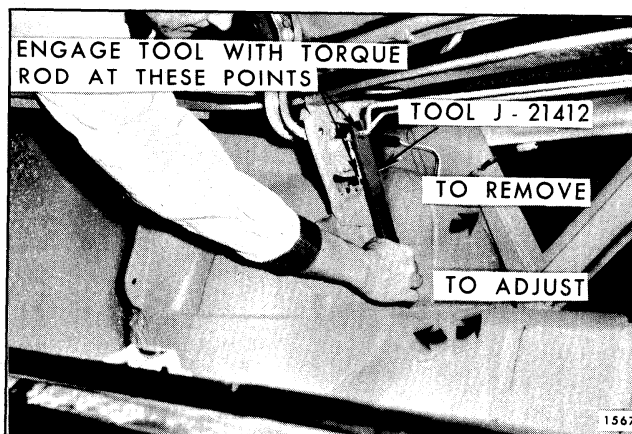
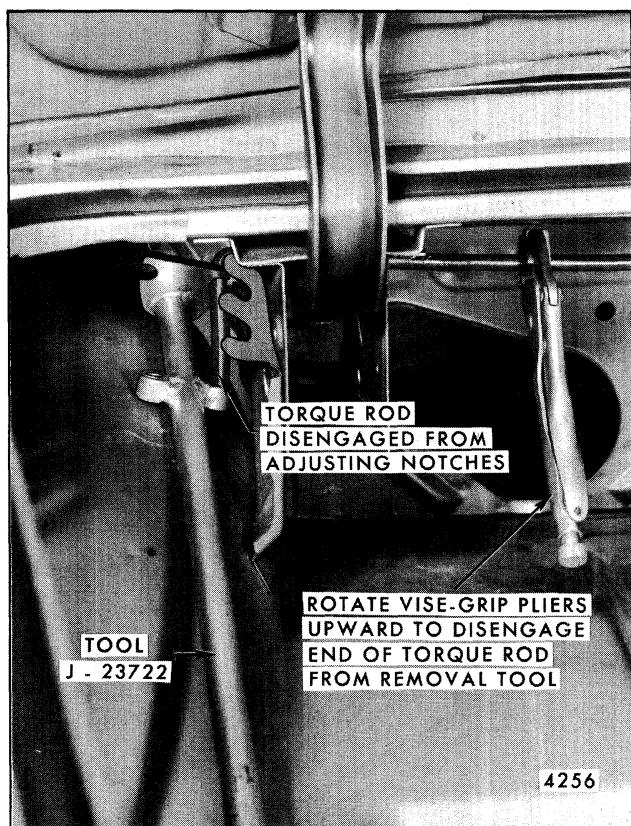

Fig. 7-36-Rear Compartment Torque Rod Adjustment - "X-27, 69" Styles
Fig. 7-42-Rear Compartment Torque Rod Removal - Cadillac "C-E" and Buick "E" Styles
- a. On "X-27, 69" and "H-27" styles, use tool J-21412-01 or equivalent (Fig. 7-36).
2. To remove torque rods, prop lid in full open position and disengage end of torque rod from adjusting notches on hinge strap, as shown in Figures 7-36, 7-42 and 7-43. Then allow handle of removal tool to rotate forward to relieve tension on rod. In some cases, it may be necessary to install a pair of locking type pliers on rod, as shown in Figures 7-42 and 7-43, and lift upward on pliers to disengage removal tool from end of rod.